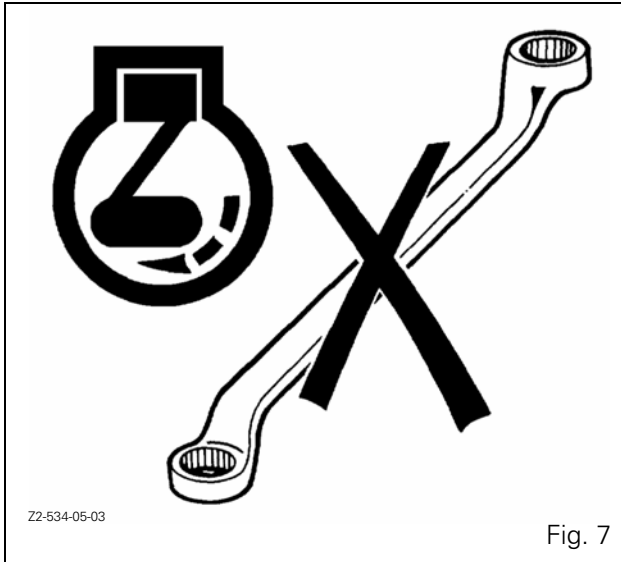

Fig. 7
- **DO NOT SERVICE** the tractor while the engine is running or hot or if the tractor is in motion (Fig. 7).